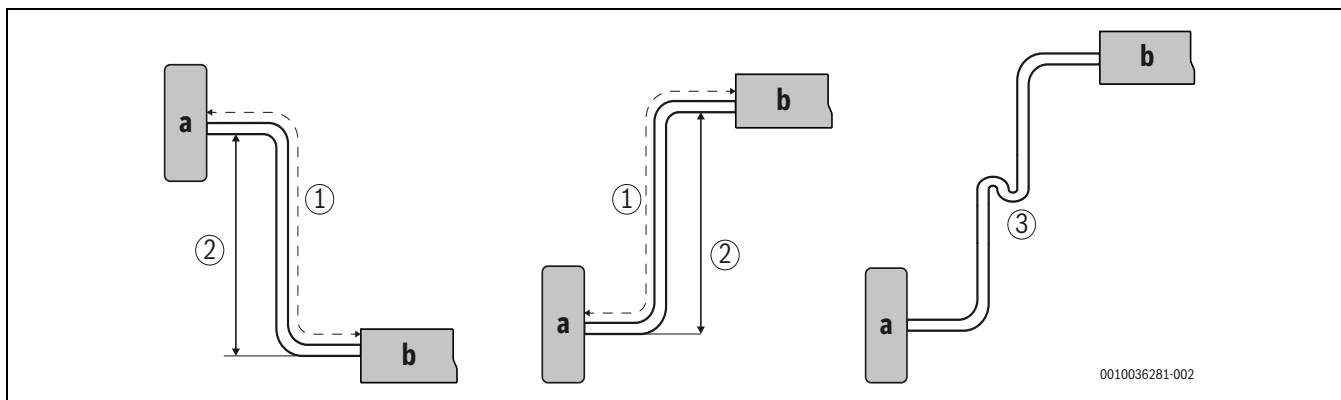

Fig. 11 Pipe length and elevation
1) Check for the (1) marked in →Fig. 11
2) Check for the (2) marked in →Fig. 11